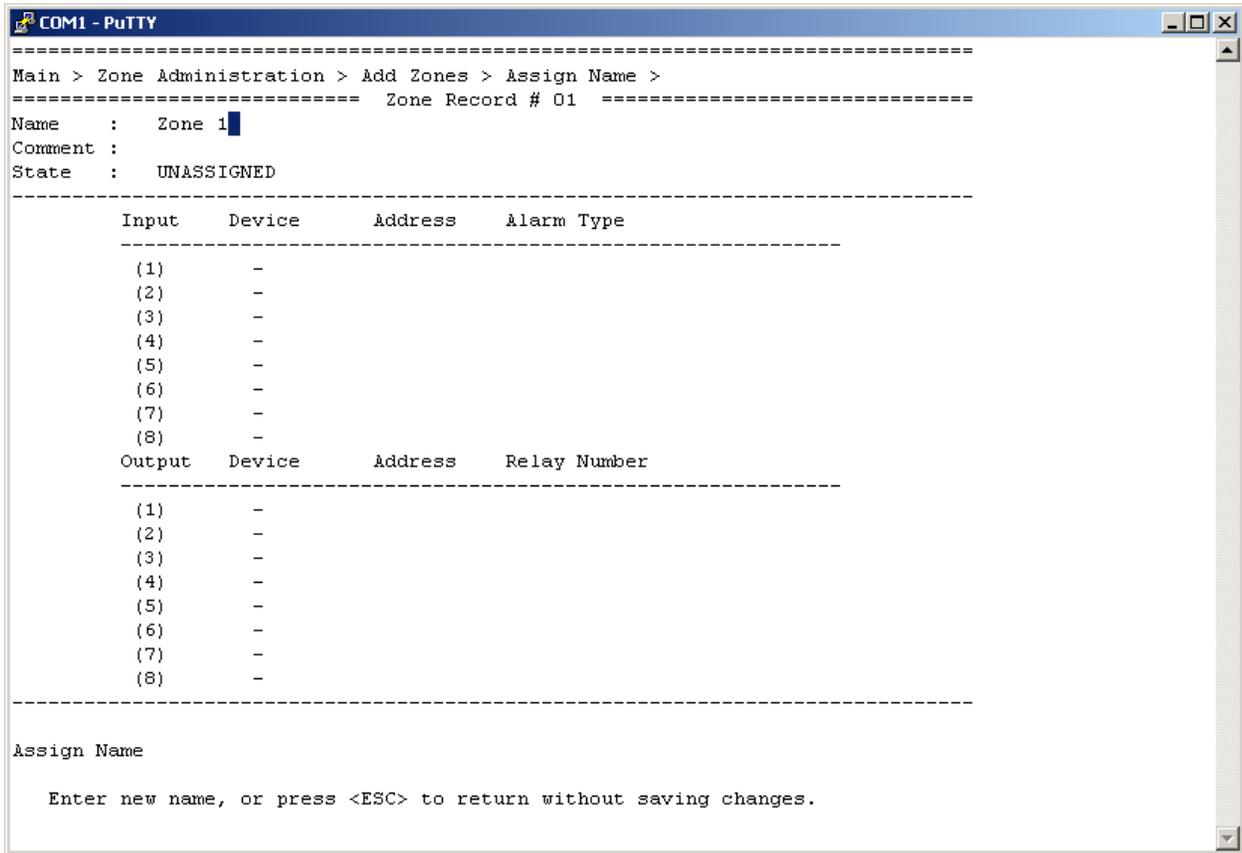
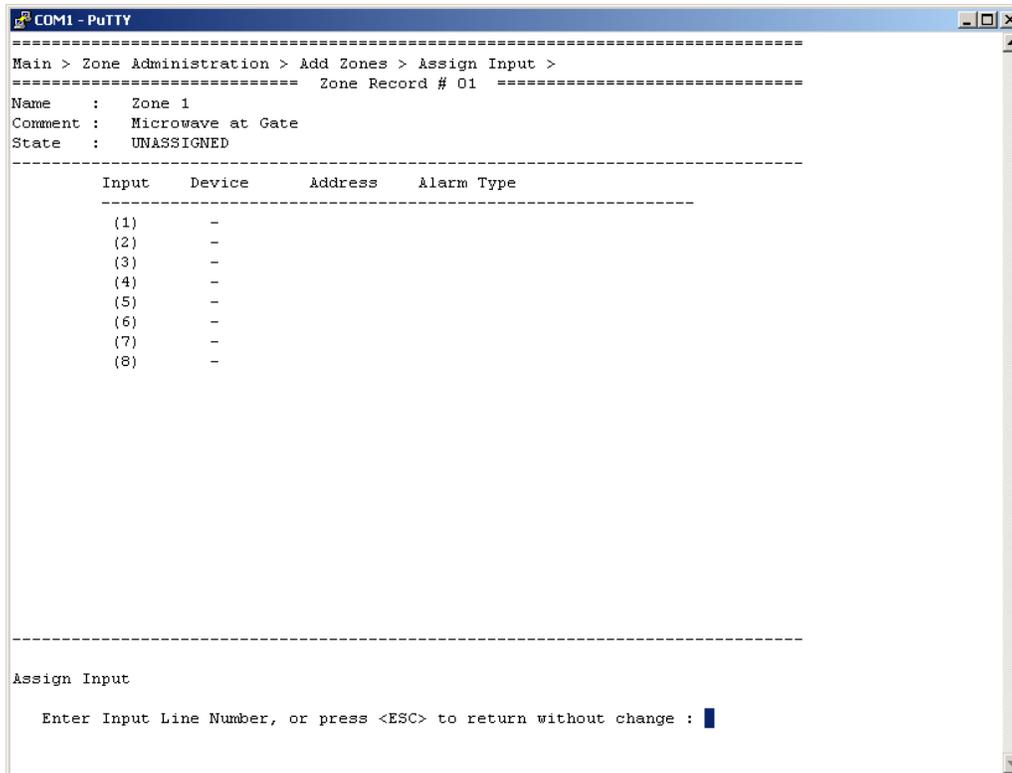

Figure 30 – Add Zone Name and Comment Screen
Figure 31 – Input Line Number Screen
Selecting command number 1 opens the “Assign Name” function that allows for naming of the Zone Record. The name can be up to 64 characters long. This name is used for reference only. See Figure 30.
Selecting command number 2 opens the “Assign Comment” function that allows a comment to be attached to the Zone Record. The name can be up to 80 characters long. This name is used for reference only. Referencing Figure 30 the banner will read Assign Comment.
Selecting command number 3 opens the “Assign Input” function that allows entering of inputs to the Zone Record. The Zone Record can have a maximum of eight (8) inputs assigned. See Figure 31. Referencing Figure 30 the banner will read Assign Input. The available inputs are determined by the devices that were found during the Device Discovery process. Inputs that would be available for assignment are:
To enter an input, a prompt will be displayed to select the Input Line Number (1-8) as shown in Figure 31. These can be selected in any order and gaps can be left in the table if desired. Select the desired number(s) and press ENTER.
Selecting command number 4 opens the “Assign Relay Output” function that allows entering of outputs to the Zone Record. The Zone Record can have a maximum of eight (8) outputs assigned. See Figure 30. The available outputs are determined by the devices that were found during the Device Discovery process. Outputs that would be available for assignment are: